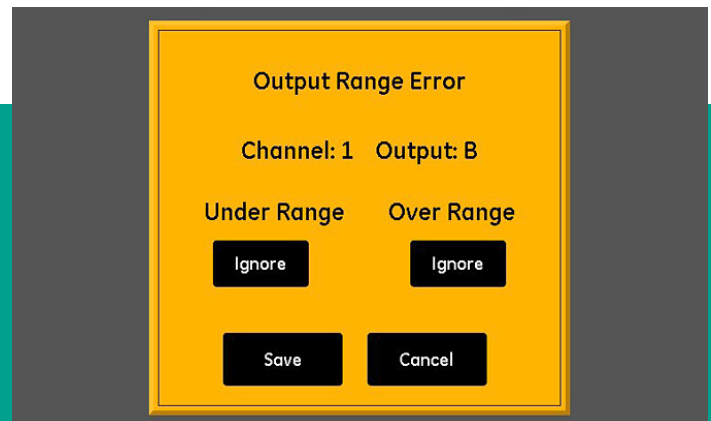

Figure 46: Range error setup screen – output response
1. Tap the desired **channel (1-6)** and **output (A or B)**, and then tap the **range error** button to open a screen similar to *figure 46* below.